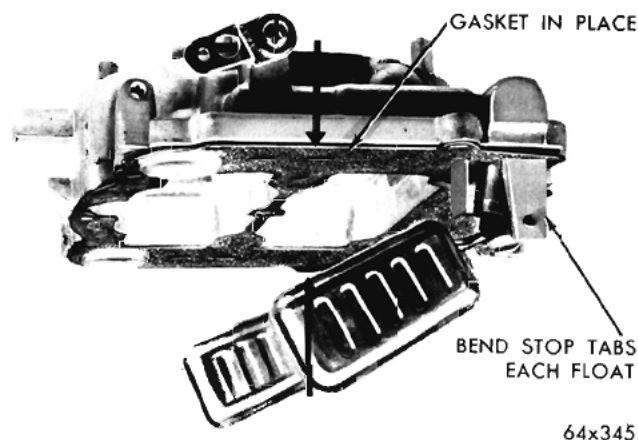

Fig. 11—Measuring Float Drop
(1) Holding the air horn in an upright position, measure the distance from the top of the floats (outer end) to the air horn gasket, as shown in (Fig. 11). This measurement should be  $\frac{3}{4}$  inch. If an adjustment is necessary, bend the stop tabs on the float levers until the correct drop setting has been obtained. Bend the tab toward the needle seat to lessen the drop, or away from the seat to increase the drop.
(2) After the floats have been checked and adjusted, continue to assemble the carburetor as follows:
(3) Place the accelerator pump plunger lower spring in the pump cylinder, then lower the air horn carefully down on the main body. Care must be taken